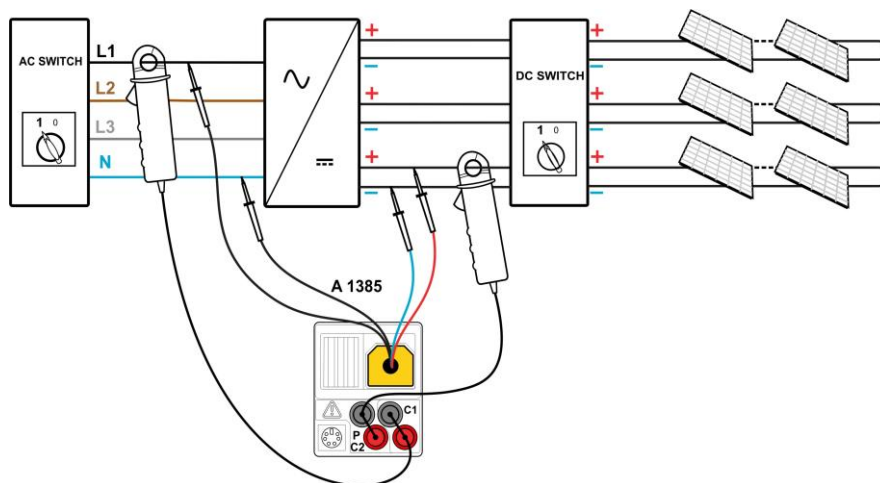

Figure 5.19: Connection with A 1385 - AC and DC sides
- ❑ **Connect** PV test lead A 1385 and current clamps to the instrument (see figure 5.19)